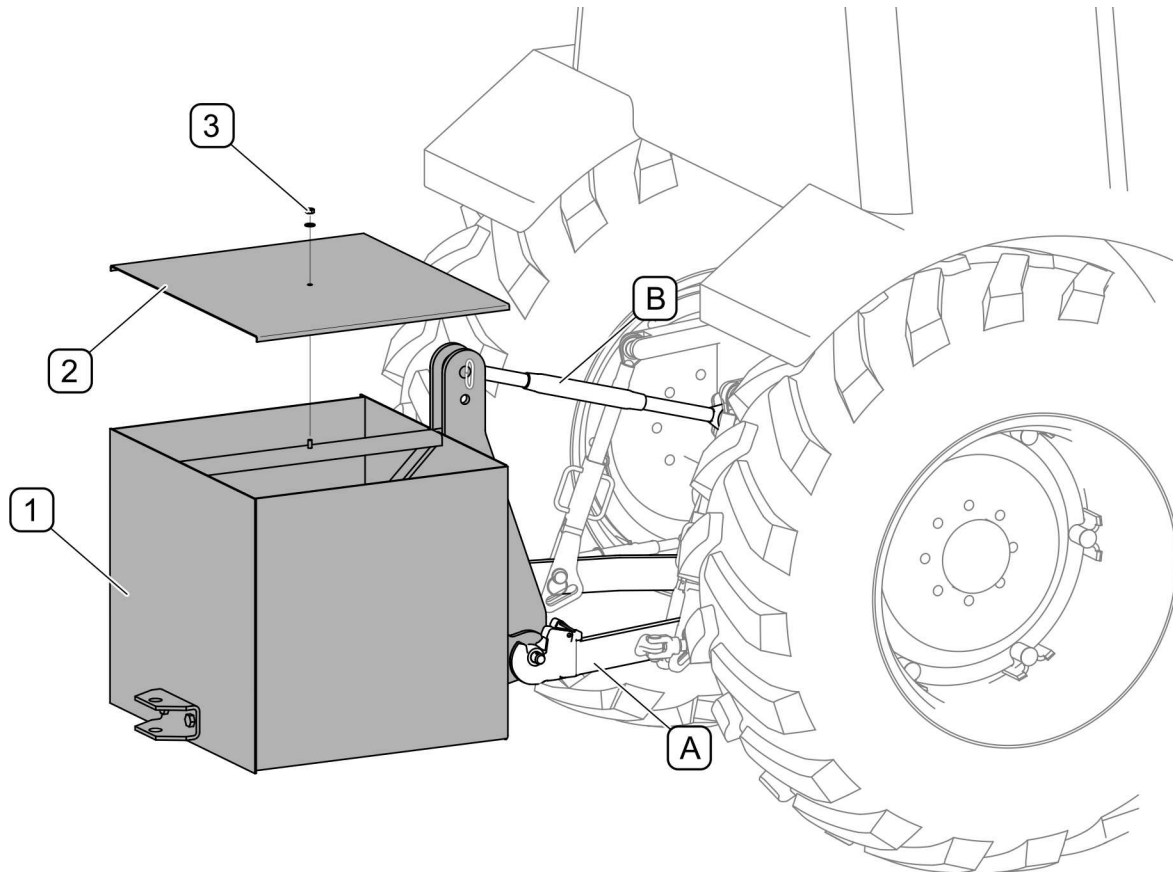

FIGURE 4.21 Counterweight
Connect the lower counterweight mounting bolts (FIGURE 4.21) to the lower links (A) of the tractor and connect the upper attachment points using the central link (B). Counterweight must be filled up to a total weight of about 1 000 kg. To fill the counterweight, weights, coarse gravel, sand or concrete can be used. To fill the counterweight, remove cover (2) secured with a nut (3).